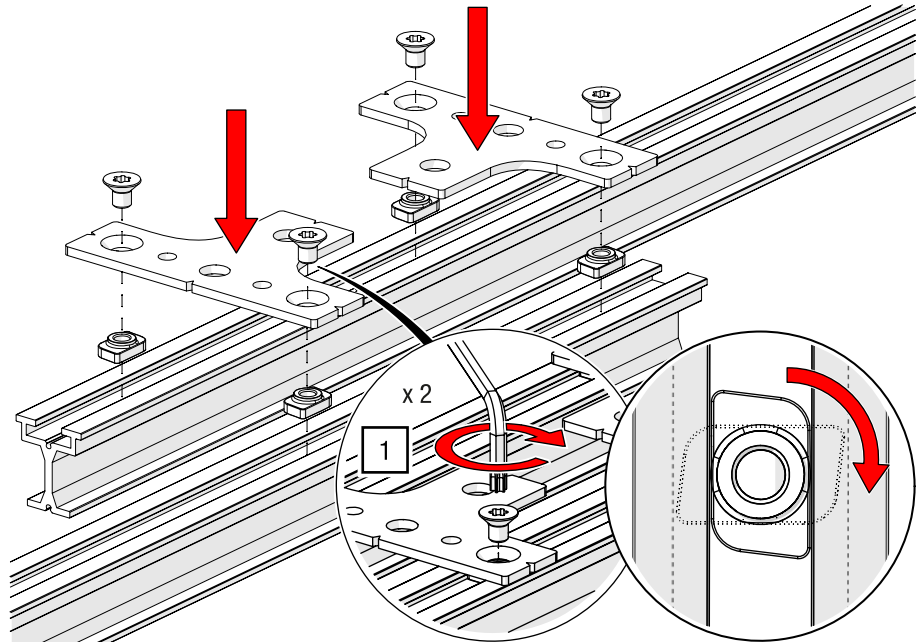

Fig. 49: Double track suspension bracket (double track) – Mount at right angle to the track (overlap)
1. Place a slot nut in one of the two track parts and fasten the adapter plate transversely orientated as a connecting plate using a TORX®-key T40 and 27 Nm (see Fig. 49).